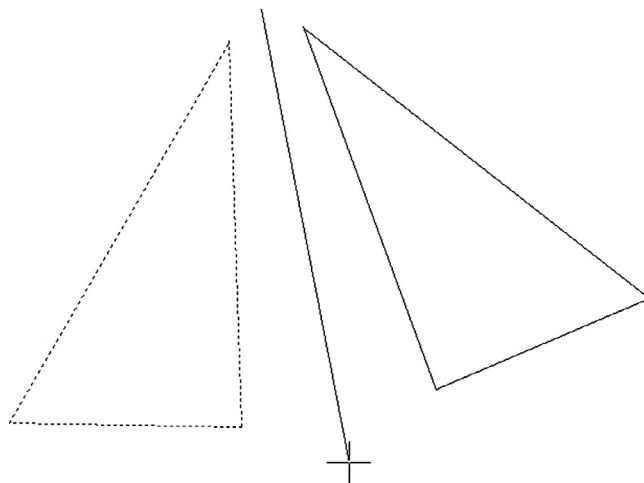

FIGURE 1.29
This command, much as the name implies, creates a mirror copy of an object over some plane. It is surprisingly useful because often just copying and rotating is not sufficient or takes too many steps. To learn this command, you have to think of a real-life mirror, with you standing in front of it. The original object is you, the plane is the door with the mirror attached (which can swing on a hinge), and the new object is your mirrored reflection. To practice this command, draw a triangle by joining three lines together, as seen in Figure 1.29.
- Step 5.** The response in Step 4 just asked you if you want to keep the original object. If you do (the most common response), then just press Enter and you are done. Figure 1.29 illustrates Step 3.